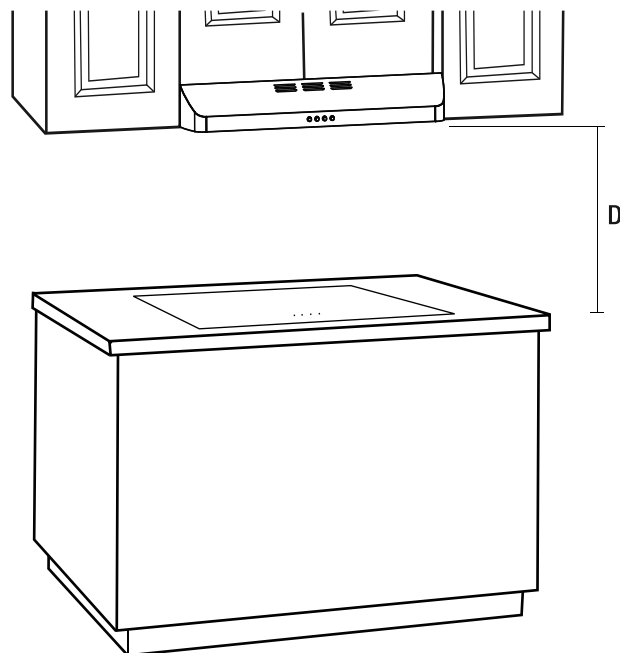

Fig. 1
2. If you choose to hang the range hood as below (Fig. 1) distance (D) from the cooktop surface, use extra caution as the surface of range hood may be extremely hot to the touch. For this unit, (D in Fig. 1) is 458 mm - 710 mm (18 in - 28 in). If you choose an 18 inch installation, the temperature of the unit surface will be high if the unit is operated under high power cooking for a certain amount of time.